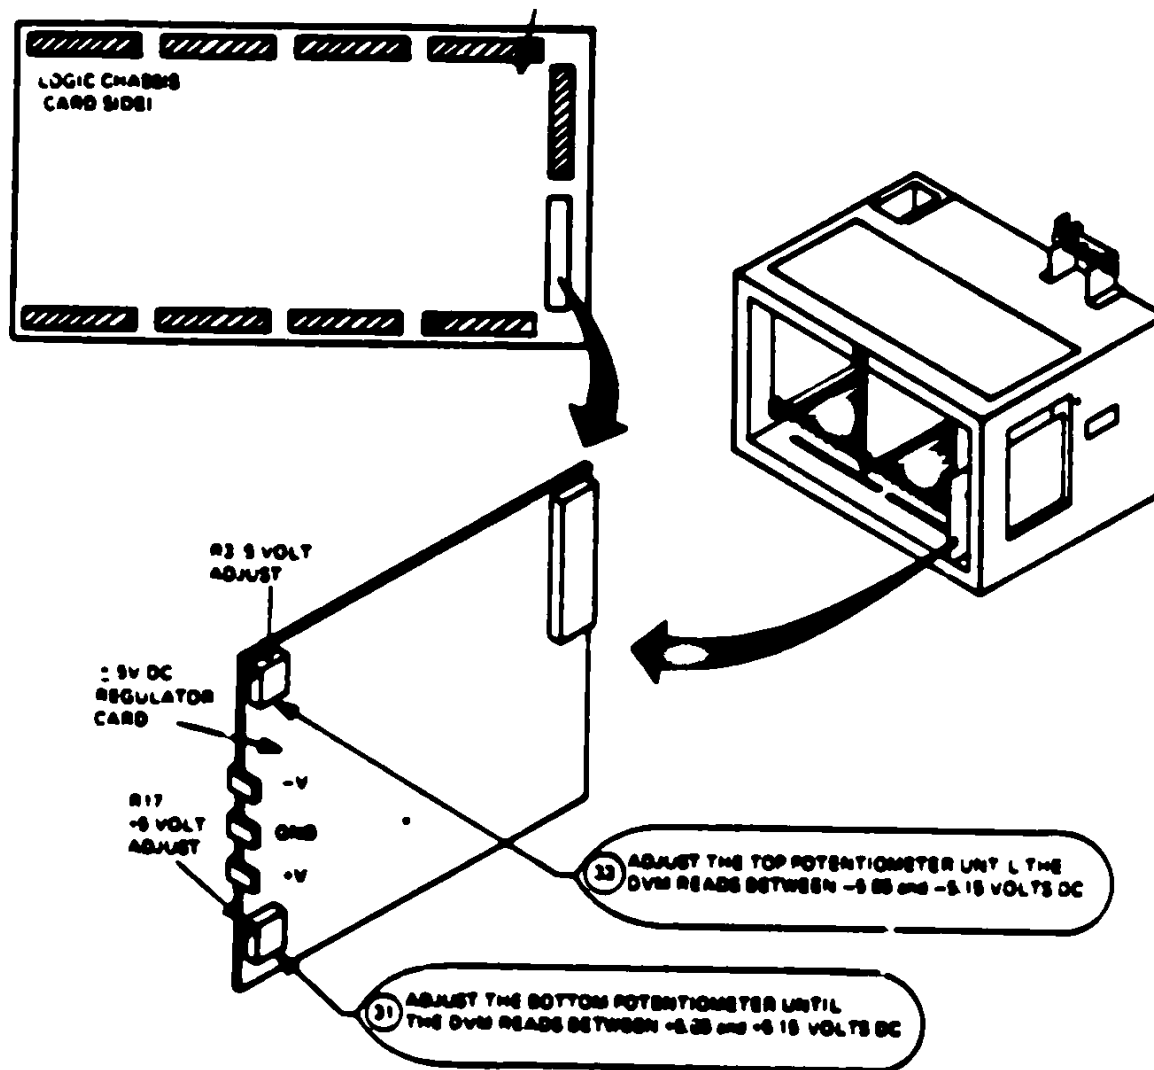

FIGURE 14 RM05 MAIN LOGIC CHASSIS (CARD SIDE)
31. Adjust the bottom potentiometer of the +/- 5 volt DC regulator card on the card side of the main logic chassis until the DVM reads between +5.05 and -5.15 volts DC. (see Figure 14)
33. Adjust the top potentiometer of the +/- 5 volt DC regulator card on the card side of the main logic chassis until the DVM reads between -5.05 and -5.15 volts DC. (See Figure 14)